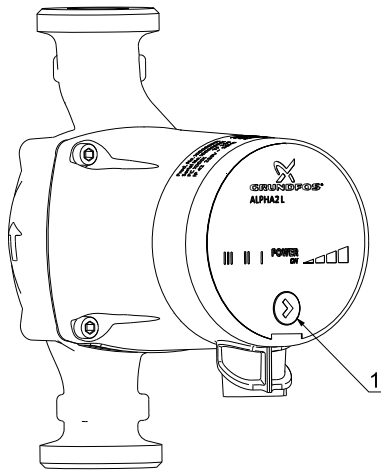

Fig. 12 ALPHA2 L, push-button position
The control panel is located on the front and is connected to the stator via a terminal plug. The control panel has a push-button (pos. 1) for selection of pump setting and seven light fields for indication of the selected pump setting. See fig. 12.